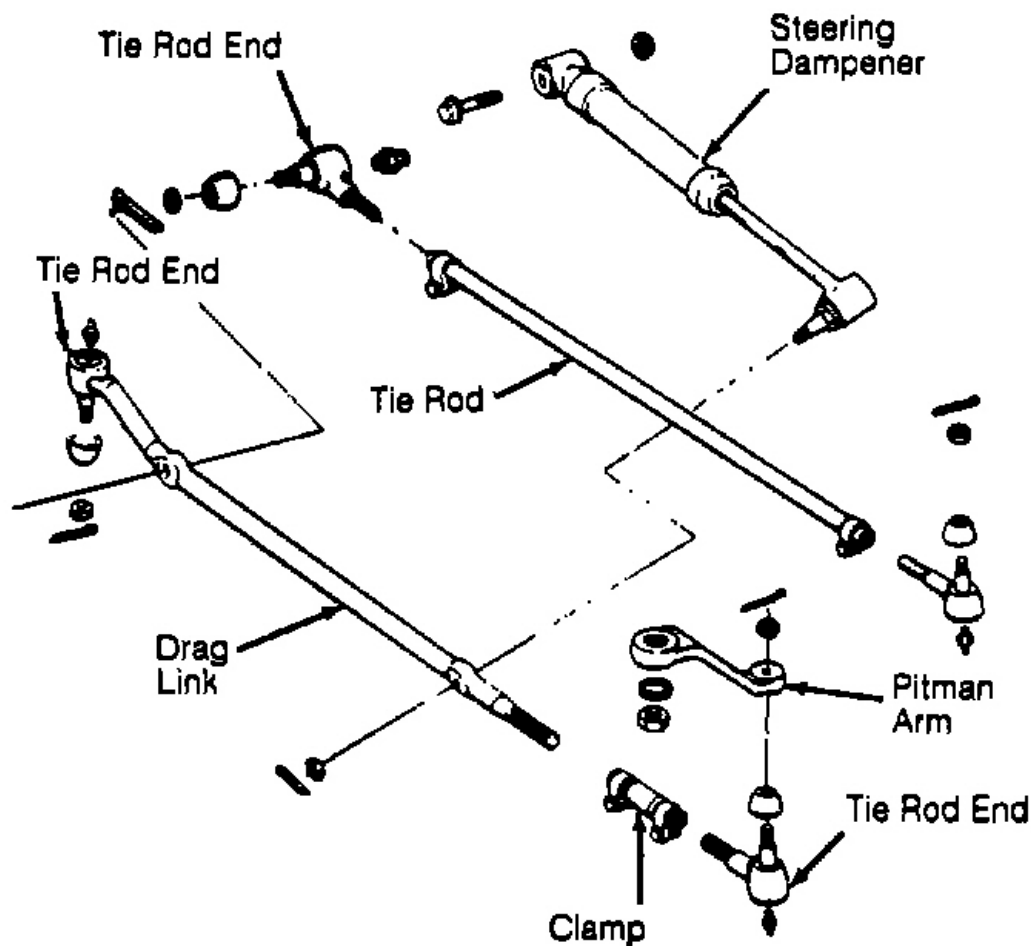

Fig. 4: Exploded View Of Steering Linkage (Except Wrangler)
2. Center steering wheel by counting the turns required to hit left and right steering stops. Center steering wheel mid-way between stops. Loosen drag link adjustment sleeve clamp bolts. See **Fig. 4** .